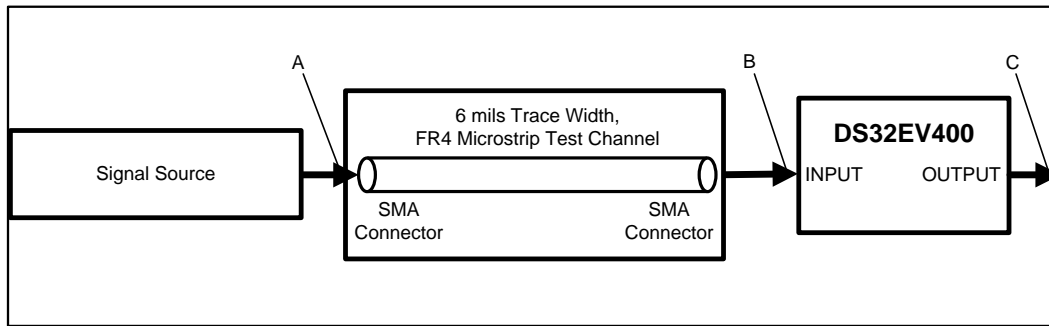

Figure 1. Test Setup Diagram
(6) Specification is guaranteed by characterization and is not tested in production.
(7) Deterministic jitter is measured at the differential outputs (point C of Figure 1), minus the deterministic jitter before the test channel (point A of Figure 1). Random jitter is removed through the use of averaging or similar means.
(8) Random jitter contributed by the equalizer is defined as  $\sqrt{J_{OUT}^2 - J_{IN}^2}$ . JOUT is the random jitter at the equalizer outputs in ps-rms, see point C of Figure 1; JIN is the random jitter at the input of the equalizer in ps-rms, see Figure 1.